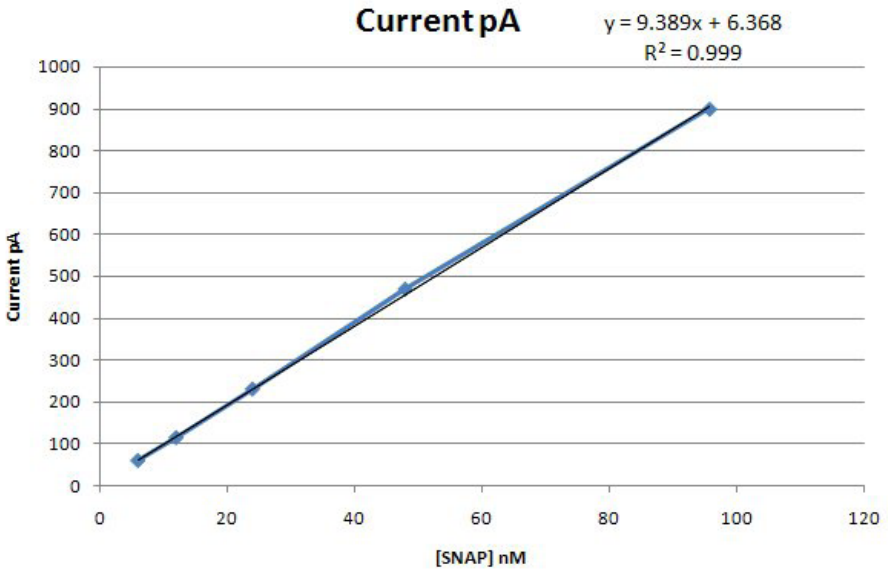

Fig. 4—Scatter plot of data from example
9. Construct a standard calibration curve using the recorded data. Using a spreadsheet with graphing capability like Microsoft® Excel, it is possible to generate a linear regression analysis that will display the equation and the  $R^2$  coefficient. To do this in Excel, enter the data and generate a "scatter plot" graph. Then, select the line and right click. Choose **Add Trendline**. The **Format Trendline** dialog box appears. On the **Trendline Options** tab, select **Linear**, **Display equation on chart** and **Display R-value on chart**. (See **Fig. 4**.)